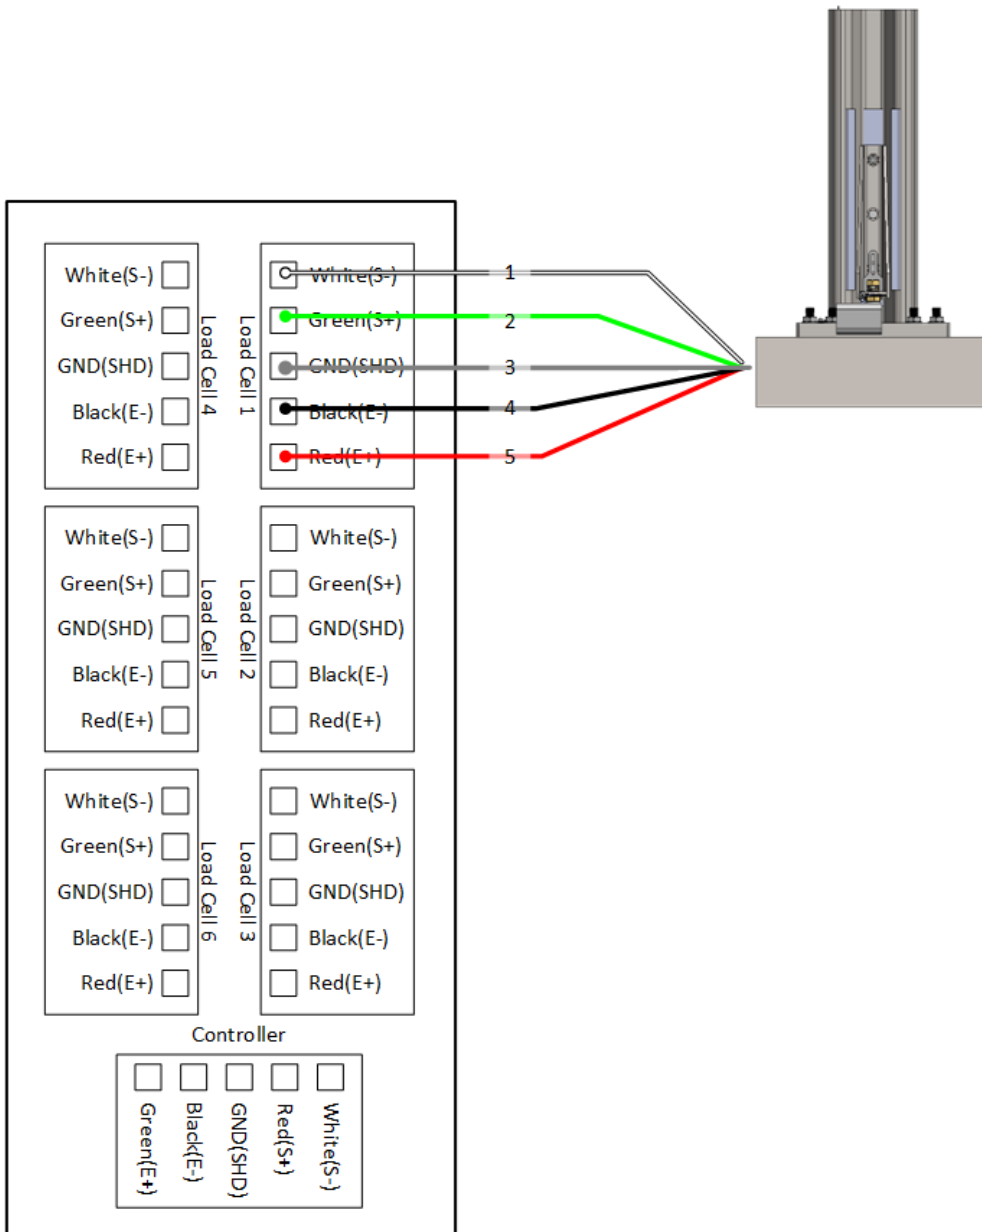

Figure 6: RJB –SiloSenz Wiring
5. Wire the RJB-6 units to the SiloSenz units. Each SiloSenz (load cell) has four-wire shielded cables plus a shield cable (ground). Connect each load cell to the RJB-6 according to the colors inscribed on the RJB PCB board (Figure 6).